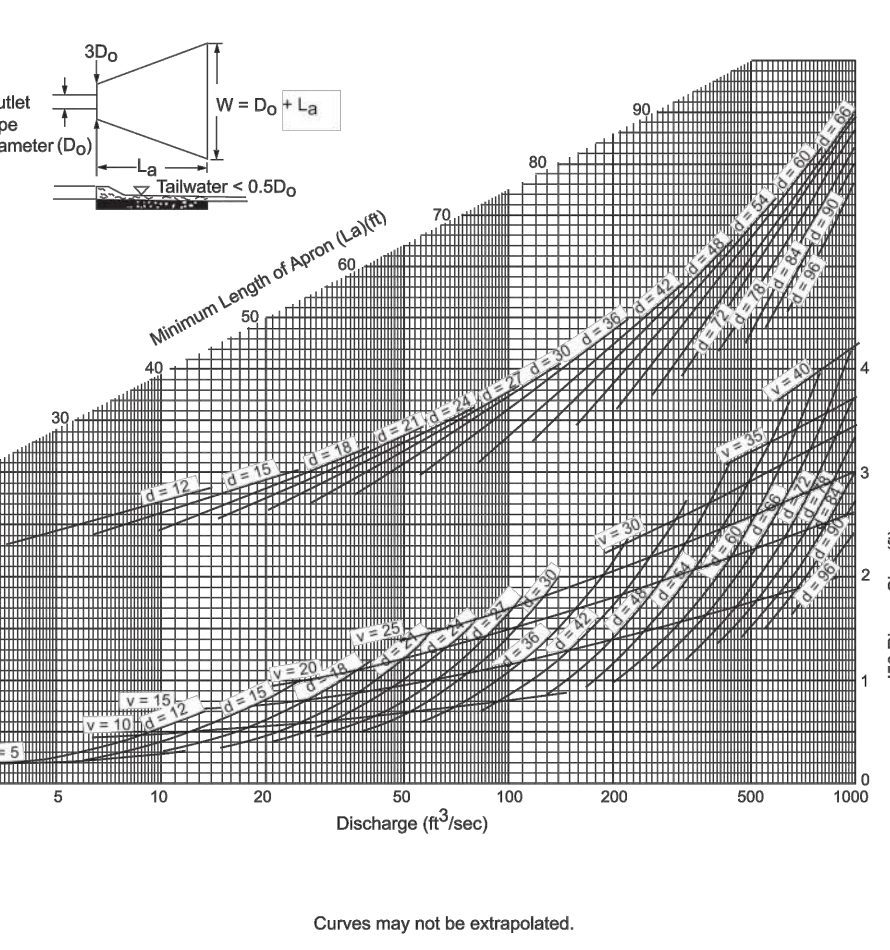

Figure 6-34.1 - Design of Outlet Protection From a Round Pipe Flowing Full, Minimum Tailwater Condition (Tw = 0.5 Diameter)
TO BE SHOWN ON THE EROSION AND SEDIMENT CONTROL PLAN. 1. The flow characteristics of the pipe at full flow including pipe diameter, flow rate (Q), velocity (V), and tailwater condition. 2. The dimensions of the apron including length (La), width at the headwall (W), downstream width (Wd), average stone diameter (D50), and stone depth (D) designed in accordance with Figures 6-34.1 and 6-34.2.